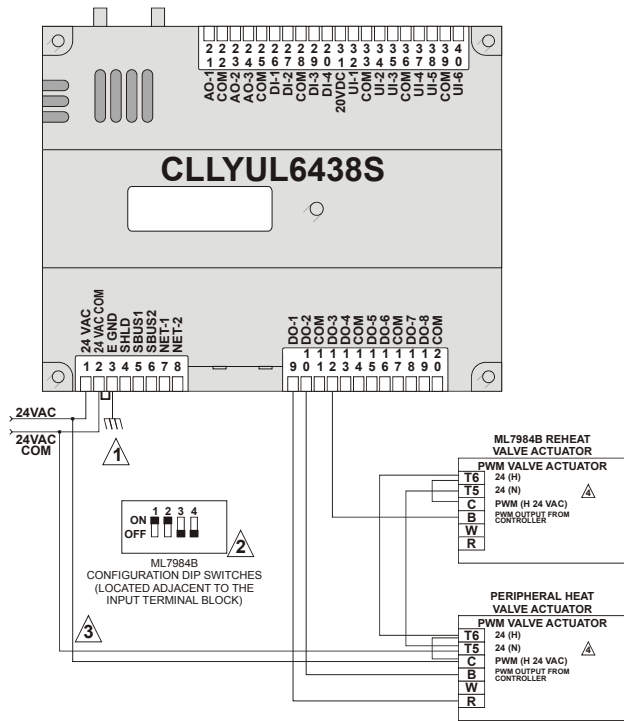

Fig. 17. Controller wiring diagram (CLLYUL6438S shown) for typical PWM heat and PWM peripheral heat valve actuator
- Typical controller wiring for PWM reheat and PWM peripheral heat valve actuator (see Fig. 17).
Ensure that the Configuration DIP Switch is set as shown in Fig. 17. Switches 1 through 3 set the timing of the ML7984B valve actuator to match the controller outputs (min. 0.1 sec; max. 25.6 sec). Switch 4 determines the action of the actuator (OFF = direct acting, ON = reverse acting).